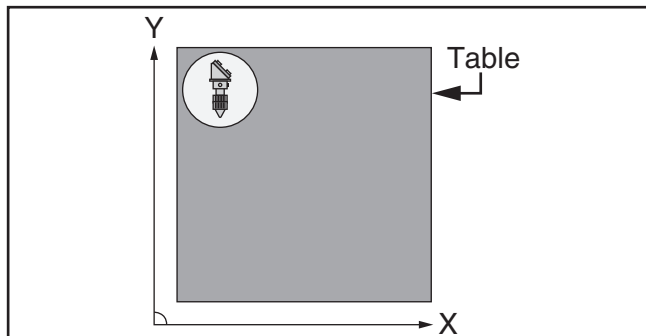

Figure 104. Laser head assembly in upper left corner of table.
9. Move laser head assembly to upper left corner of table (see **Figure 104**).